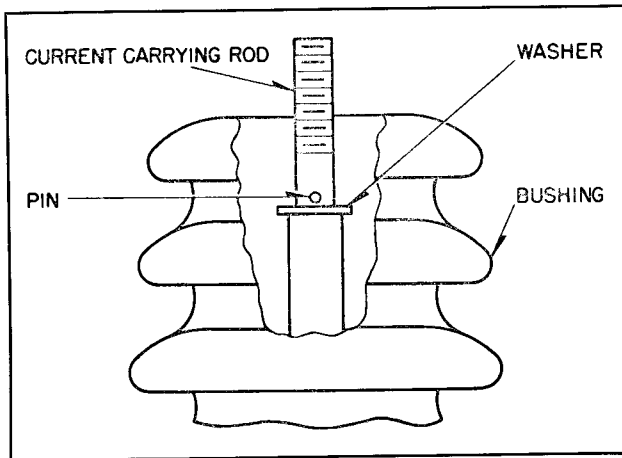

FIG. 7. Correct Positioning of Pin and Washer in Bushing Assembly
bushing. Be careful not to lose the pin and washer (See Fig. 7).
5. With the pin and washer in place (See Fig. 7) slide the assembly in the new bushing, and with a new gasket in position under the clamp-type terminal, replace the terminal and tighten it. This gasket should be cemented to the bushing with any good gasket cement. A bit of vaseline on the top of the gasket will prevent it sticking to the terminal while the terminal is tightened.